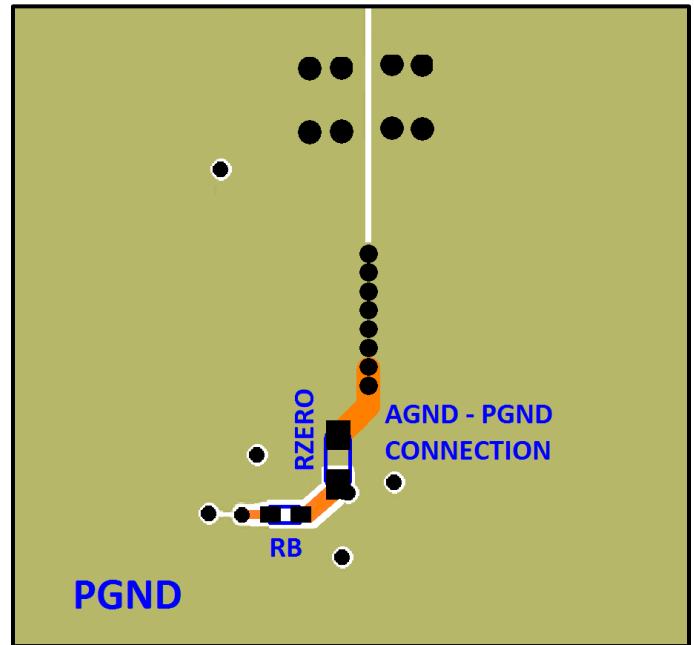

Figure 11: Bottom Layer – components
**Recommendation 8:** Using separate nets for AGND and PGND is good practice, allowing a proper layout. This is not absolutely necessary but highly recommended (Figure 11).